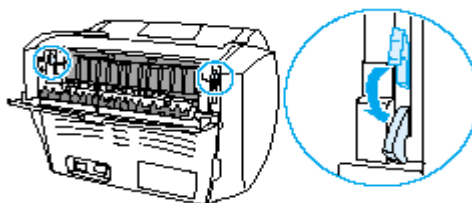

Figure 52. Location of Pressure Release Levers
2. Rotate the green pressure release levers downward on the HP1200 printer, as shown in Figure 52. If you can remove the media without removing the toner cartridge, do so, and continue with step 4.